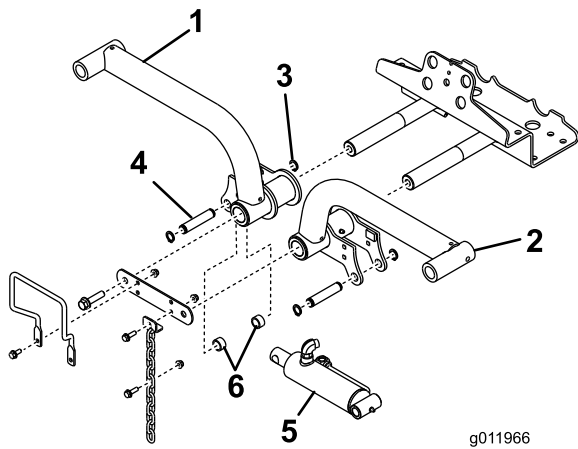

Figure 15
- Insert the lift arms onto the lift arm pivot shafts (Figure 15), and secure each with a lift arm pivot shaft link and bolts previously removed.
6. Secure the right end of the lift cylinder to the right lift arm with a pin and 2 spacers (Figure 15). Secure it with a retaining ring.